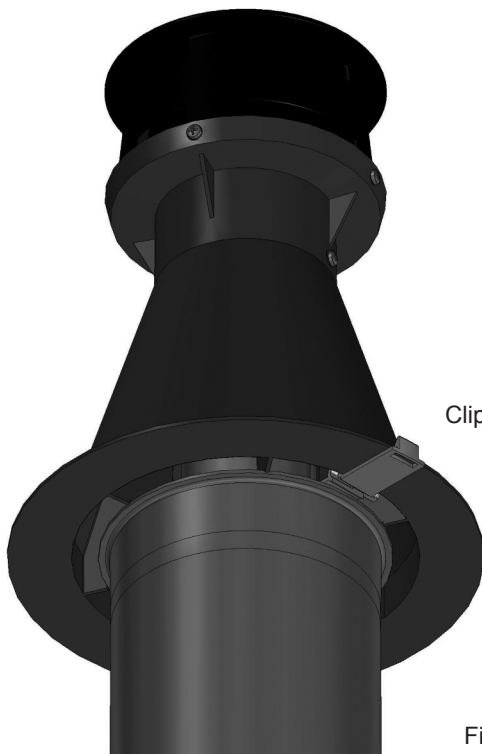

Fig. 7
11. The IFOS must be fixed in the air inlet of the boiler vertical flue terminal at the time of installation. It **MUST** be positioned as shown (Fig. 7).
13. Insert the loose end of the IFOS cable into the air inlet of the cut or adjusted flue terminal. Fix the clip to the flange as shown (Fig. 7). Ensure that it is firmly in position.